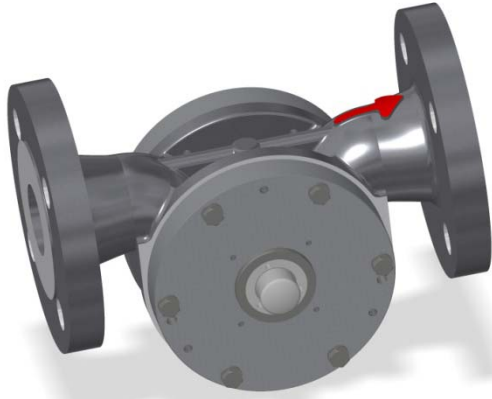
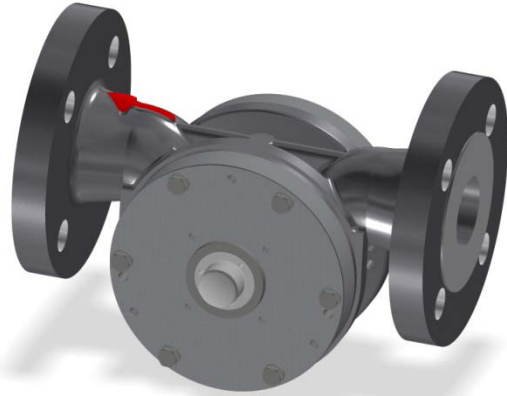

Figure 25 – Flow direction **left to right** (standard direction)
Figure 26 – Flow direction **right to left**
1. Before disassembling the flowmeter, register the flow direction of the flowmeter. Look from the side where the E-counter was mounted on, for the arrow on the flowmeter indicating the flow direction, as shown in Figure 25 and Figure 26.